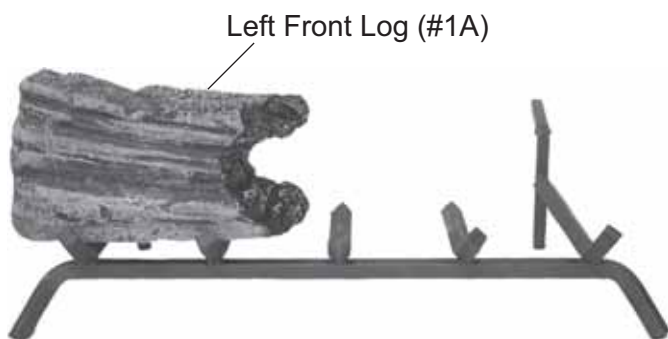

Figure 103 - Placing Left Front Log #1A on grate
2. Place Left Front Log #1A on front left of grate. *See Figure 103.*